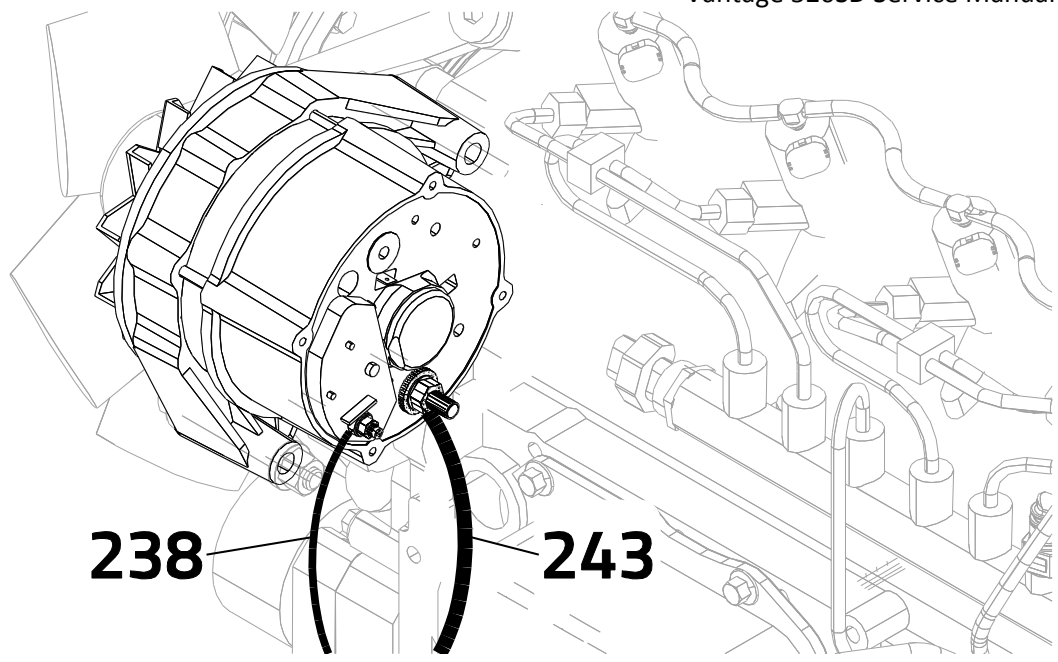

Figure F.7
9. Place the negative meter probe on a good chassis ground, or the negative battery terminal. Place the positive meter probe on the battery terminal on the back of the alternator. (Lead #238ALT) **SEE FIGURE F.7. SEE WIRING DIAGRAM.**